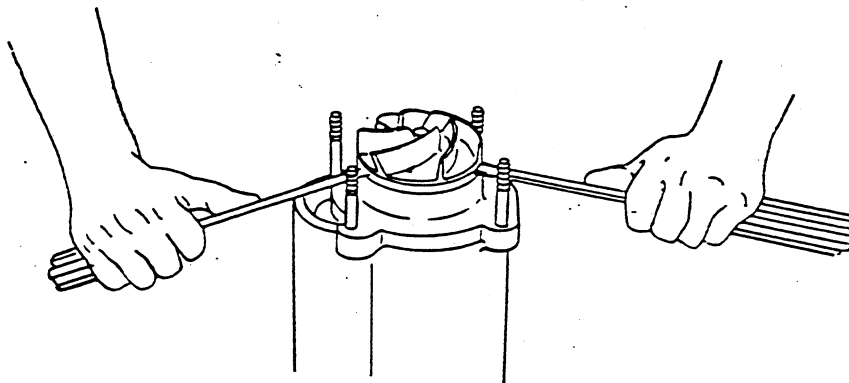

Figure 2. Removing Pump Impeller
Remove the piece of wood from between the vanes of the impeller. Pry off the impeller using two flat-bladed screwdrivers as shown in Figure 2. Retain the impeller key (9). Use caution when removing the impeller from the shaft; tension on the seal spring will be released, and the seal plate (50) will become a free part.